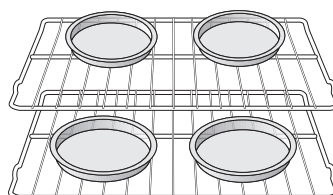

Fig. 3
4. Assemble one connector arm at a time. With the oven door open and the oven rack in place, install one end of the connector arm to the hole in the **door connector bracket** (Fig. 1) and the other end in the hole in the **rack connector bracket** (Fig. 2 and as in Fig. 3). The oven rack may need to be adjusted in or out in the rack position to match the length of the connector arm.